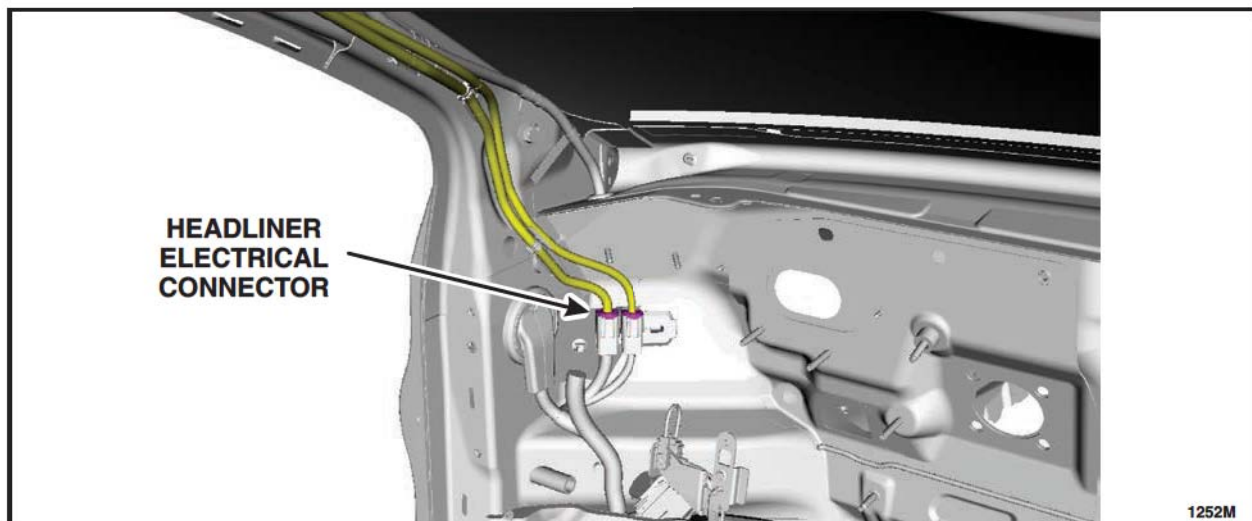

FIGURE 11
18. Disconnect the headliner electrical connector (closest to the LH front door opening) behind the BCM mounting bracket. See Figure 11.
14. Connect the headliner electrical connector behind the BCM mounting bracket location. See Figure 11.